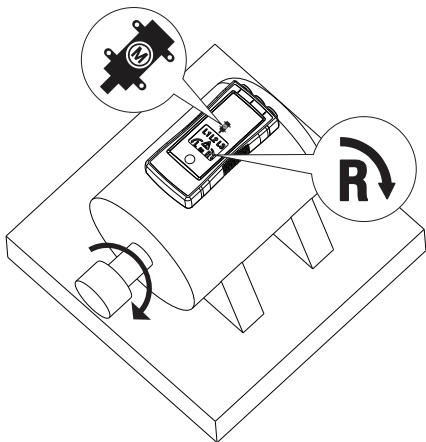

Figure 2: Motor Rotation
2. Position the PRM-6 on the motor so it is parallel to the length of the motor shaft. The sensor of the tester should be in the center of the motor windings. The tester should be as close as possible to the motor. See Figure 2.